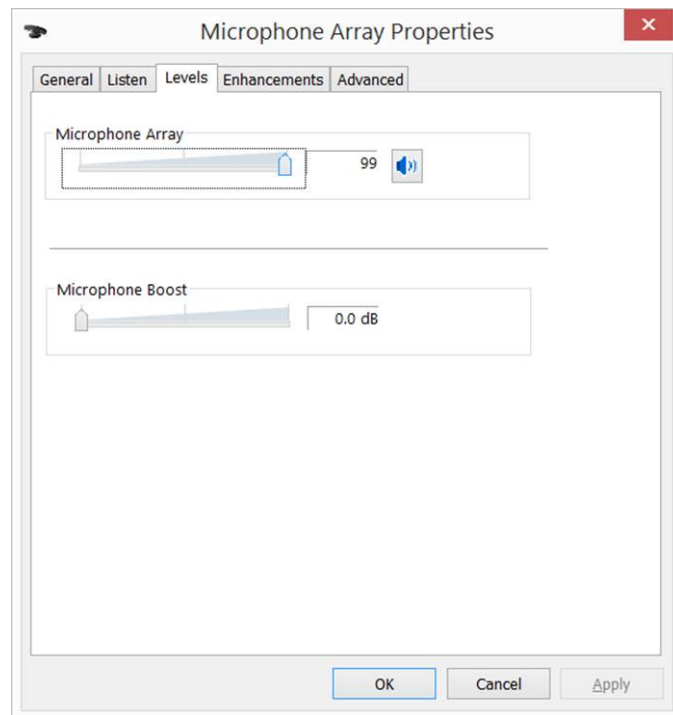

Figure 3-2 Microphone Boost Turned Off
- 13) Turn any boost settings or other special volume settings completely off (for example, set **Microphone Boost** to 0.0dB). See Figure 3-2 for an example.